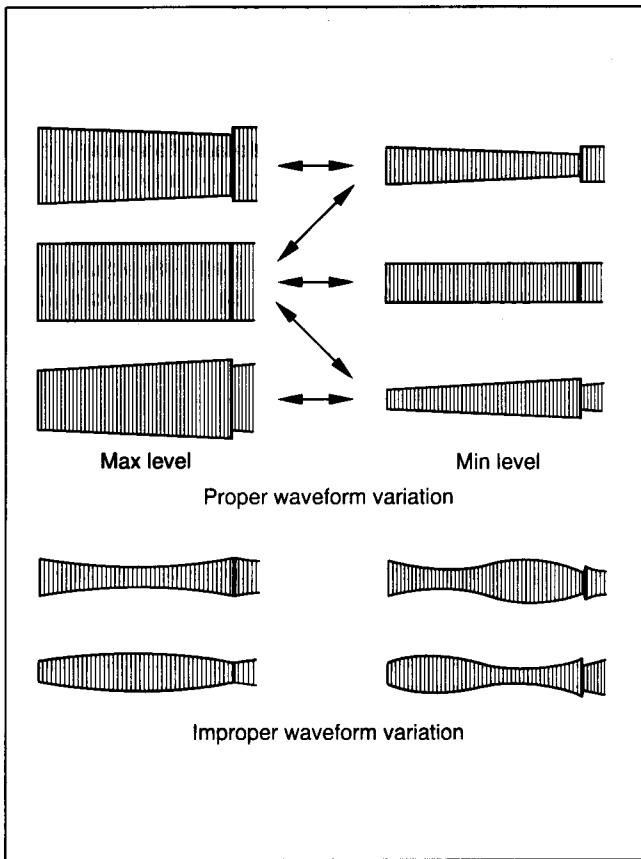

Fig. 2-4-1
- Make sure that there is no significant level drop of the FM waveform caused by the tracking operation, with its generally parallel and linear variation ensured. Perform the following adjustments when required. (Fig.2-4-1)